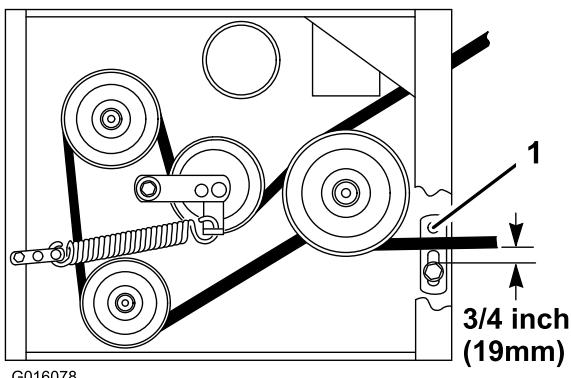

Figure 46
- Check the belt guide under the engine frame for proper adjustment (Figure 46).
**Note:** When the mower belt is engaged, ensure the distance between the belt guide and the mower belt is 19 mm (3/4 inch) (Figure 46). Adjust the mower belt guide as necessary. The disengaged belt should not drag or fall off the pulley when the guides are properly adjusted.